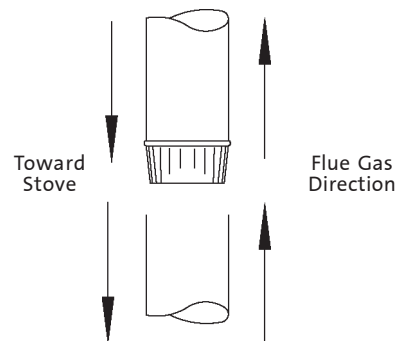

Figure 3. Chimney connector orientation.
- Each connector section must be oriented with the male (crimped) end pointing toward the stove. See **fig. 3.**